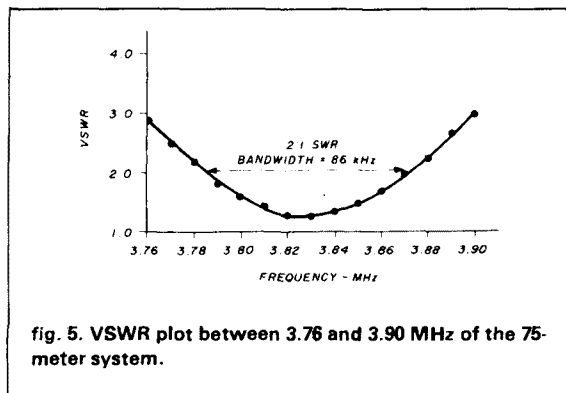

fig. 5. VSWR plot between 3.76 and 3.90 MHz of the 75-meter system.
*Charts as introduced in the text are not in sequence. However, they are grouped as follows: two-element arrays, figs. 3 and 4; three-element arrays, figs. 5 through 11; four-element arrays, figs. 12 through 17. Editor.